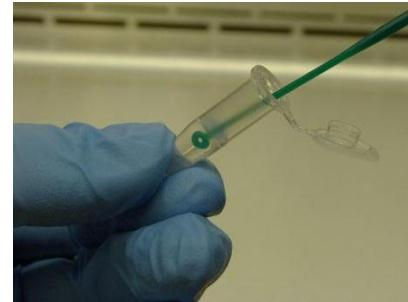

Figure 24 – Dislodge the Organism Cells into the Water in the Micro-centrifuge Tube
3. Insert the inoculating loop into the water in the micro-centrifuge tube and dislodge the sample into the water by agitating the loop in the water as shown in Figure 24.